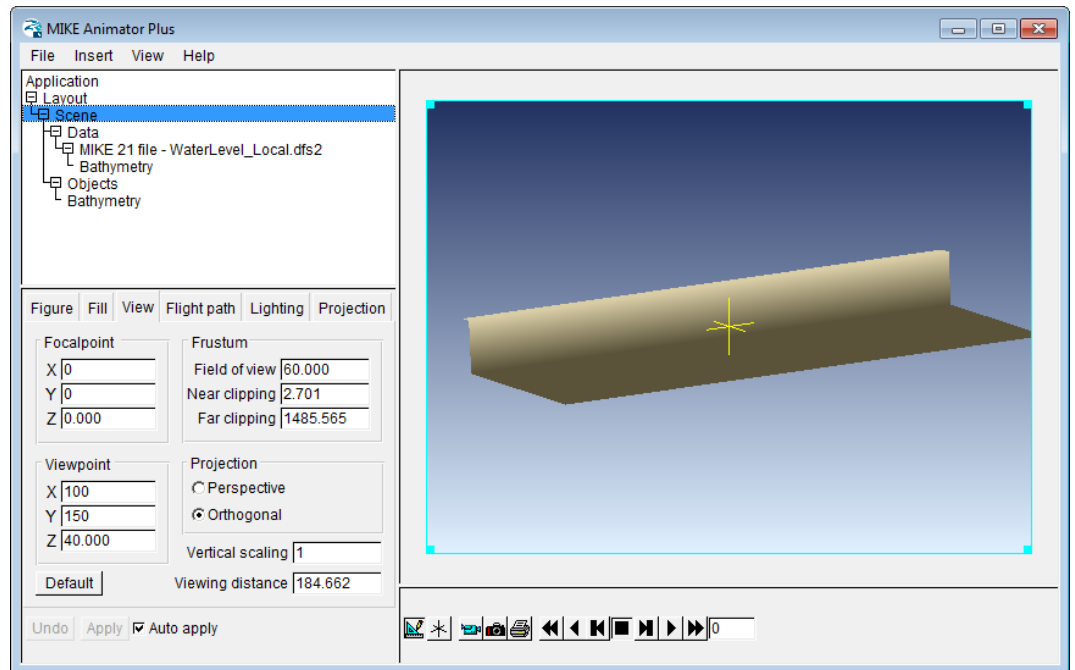

Figure 3.32 Defining View settings in MIKE Animator Plus
5. Select the 'View' tab and change the Focalpoint parameters to (0,0,0) and the Viewpoint parameters to (100,150,40) as shown in Figure 3.32.